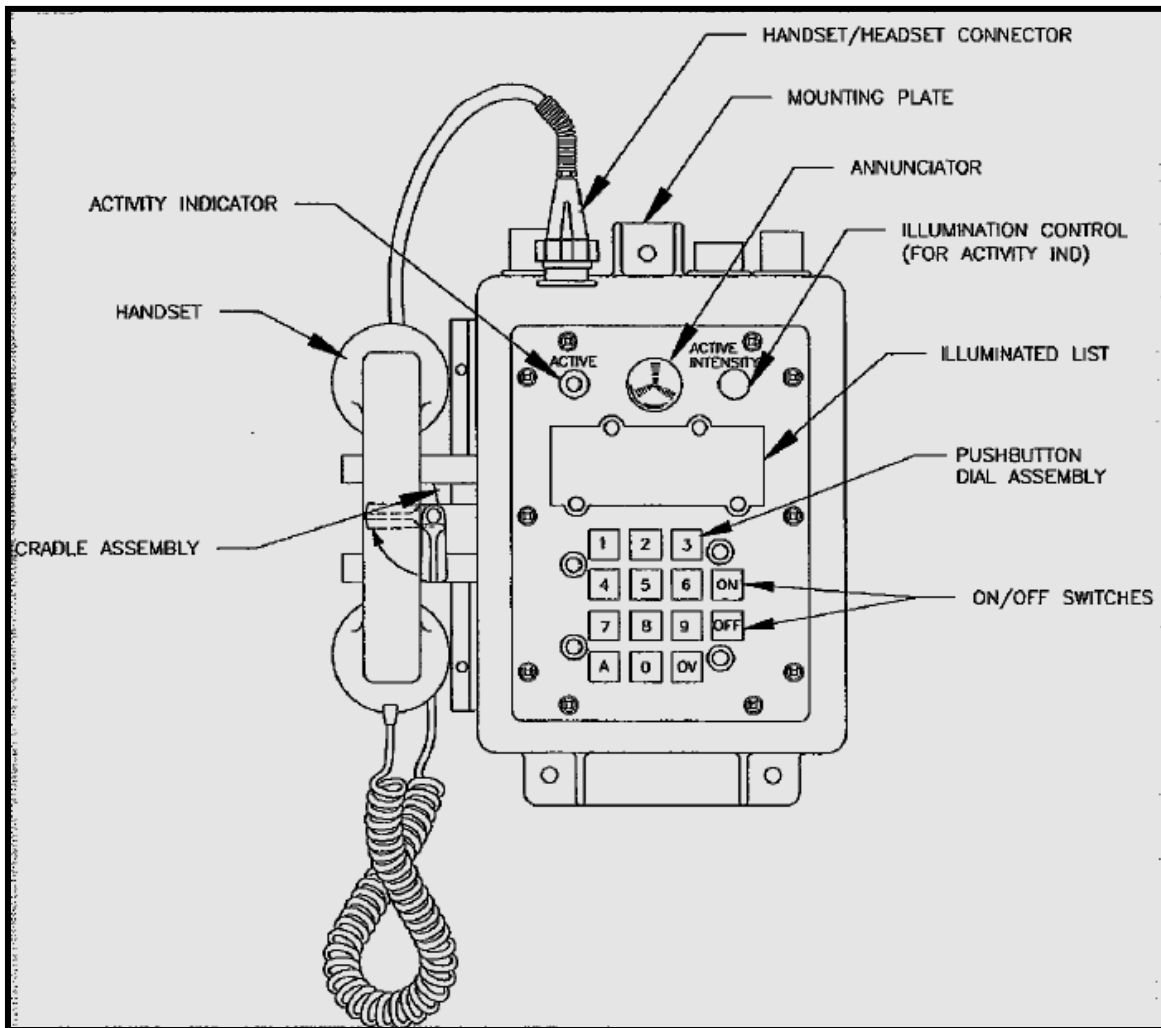

Figure 6-56.—Standard Dial Terminal, TA-866B/STC-1.
The DS (figure 6-56) utilizes a 12-button Dual-Tone Multiple Frequency (DTMF) key sender to initiate calls to other STC-2 terminals, STC-2 nets, and external interfaces. A primary lamp illuminates when +24VDC is provided from the ICSC, ensuring the terminal, specifically the ON pushbutton and directory plate, is visible in a darkened area. Secondary lamps (three) are provided to illuminate entire keypad when DS is active. An annunciator and ACTIVE lamp are provided to alert users of incoming calls. The ACTIVE lamp flashes at ring rate when OS is called and remains illuminated when OS is active (ON). A remote ringing device may be connected to DS. This is advantageous in high-noise spaces to alert personnel of incoming calls. The remote ringing device and cabling are not provided.